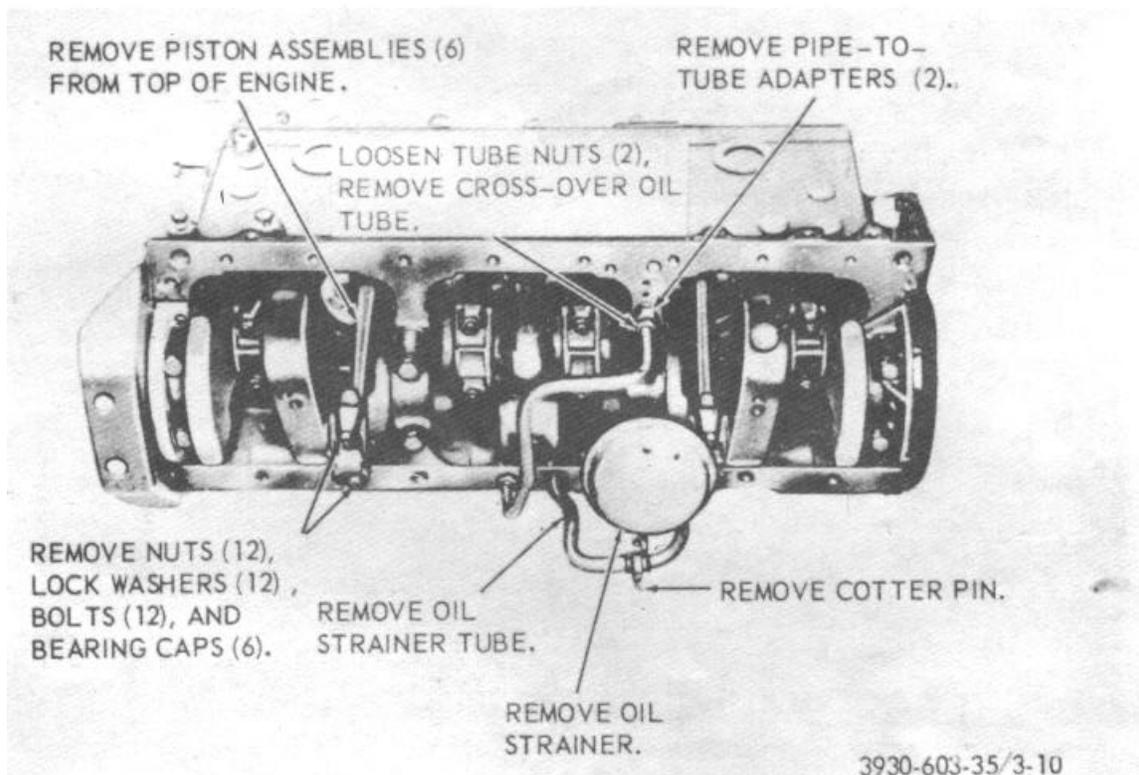

Figure 3-10. Oil strainer, oil lines, piston and connecting rod, removal and installation.
c. Remove oil strainer and oil lines as illustrated in figure 3-10.
- a. Install oil strainer and oil lines as illustrated in figure 3-10.
- (4) Remove connecting rods and piston assembly as illustrated in figure 3-10).
- (5) Temporarily install connecting bearing cap on connecting rod from which they were removed.
- (1) Oil cylinders and generously coat piston and rings with engine oil. Install a piston ring compressor and compress rings into piston grooves.
- (2) Install six piston and connecting rod assembly as illustrated in figure 3-10.
- (3) Make sure connecting rod assembly is installed in cylinder bore from which it was removed and that oil squirt hole in rod is installed toward camshaft side of engine.
- (4) Apply a light coat of engine oil to connecting rod bearing lower cap and make sure bearing lock fits into machined notch of rod and cap. Tighten connecting rod nuts to a 45 to 60 foot-pound torque.
- (5) Install oil pan and lines (para 3-29).
- (6) Install cylinder head (TM 10-3930603-12).